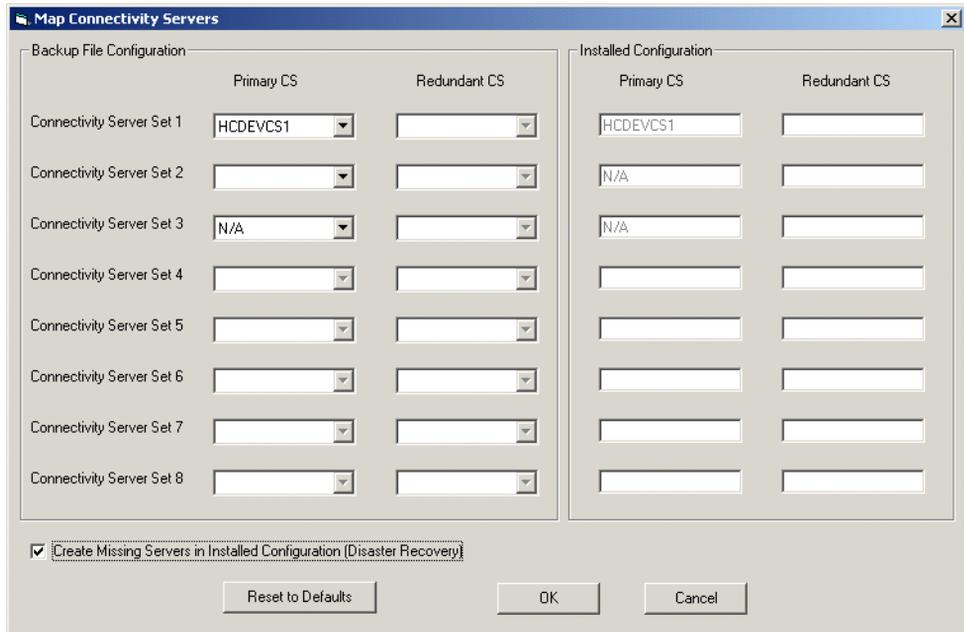

Figure 49. Map Connectivity Servers
8. The Backup/Restore program compares the old configuration in the backup file to the current configuration of the newly installed system. If the hosts of the Primary and Redundant Connectivity Servers do not match, a dialog will appear (Figure 49) allowing the user to map the old Connectivity Server node names to the new Connectivity Server node names.
- a. Select the Create Missing Servers in Installed Configuration (Disaster Recovery) check box if one or more of the Connectivity Server Nodes does not appear on the Installed Configuration side of Figure 49.